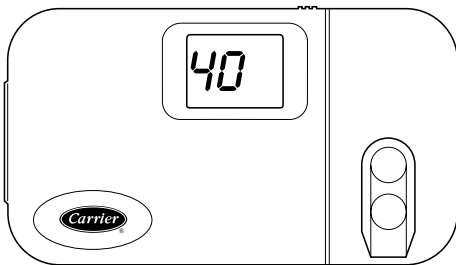

Fig. 4 - Lowest Temperature Setting
- Close** the external manual gas valve (See Fig. 4).